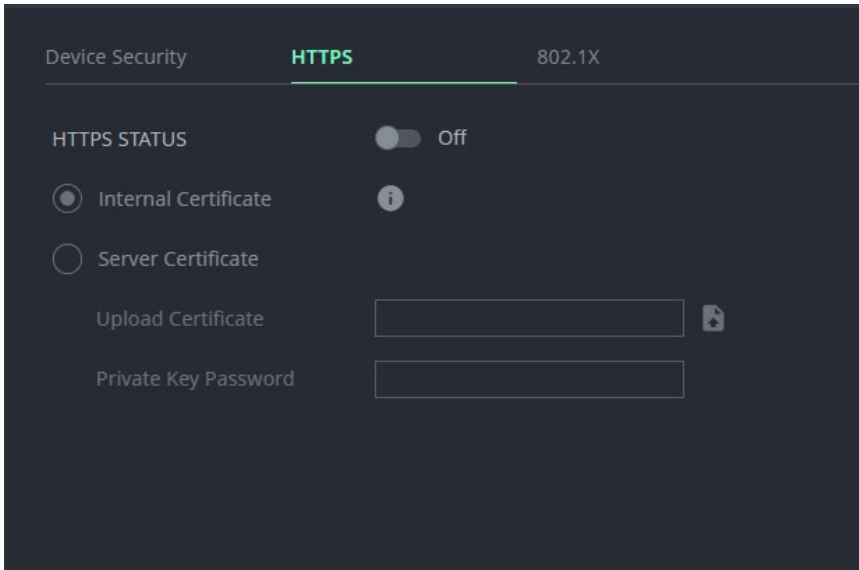

Figure 30: Security – HTTPS Tab
2. Select the Device Security Tab. The Security settings appear (Figure 30).